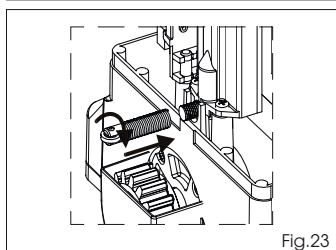
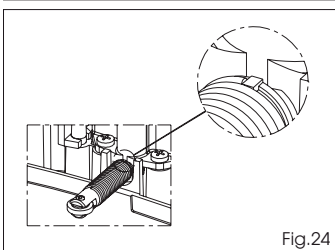

Fig.23
Fig.24
- Fit the spring turning it clockwise, Fig. 23, until the stop is reached; see Fig. 24.